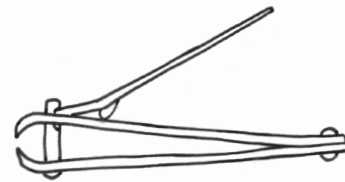
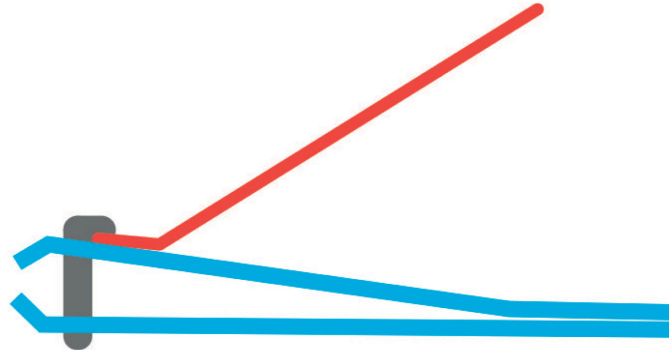

Figure 14
Figure 15
Figure 14 shows the pair of nail clippers on its own. The picture of the nail clippers in Figure 15 is called a **schematic diagram**.
1. Look at the red part of the diagram in Figure 15. It is a lever. What class of lever is it when the nail clippers are used?
2. Copy Figure 15. Show the effort and load on the red lever with arrows and labels. Also show the fulcrum with a small triangle and a label.